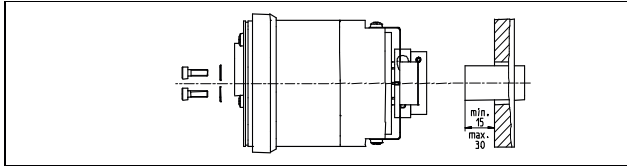

Figure 10-6: Note of Installation
- ◆ Loosen the socket-head screw (1) on the clamping ring (2).
- ◆ Push the encoder and collet onto the drive shaft. -- Take note of installation (Figure 10-6).
- ◆ Fix the torque support (3) with 4 M3 screws (4) and washers.
- ◆ Firmly tighten the socket-head screw (1) on the clamping ring (2).